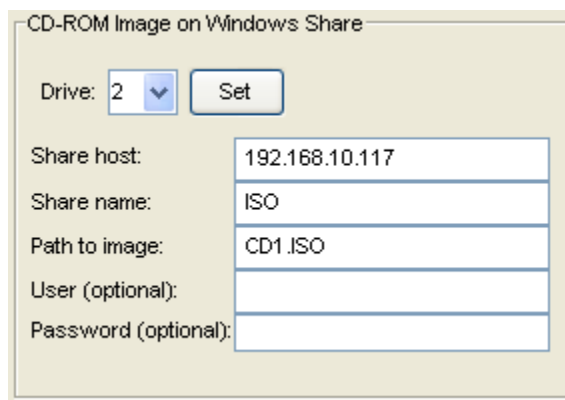

Figure 11-3
Please refer to Figure 11-3 for the following items.
- **User/Password (Optional):** Enter the user and password for the person to access the data that you want to share, and click the **Set** button to enter your selections as shown in Figure 11-3.